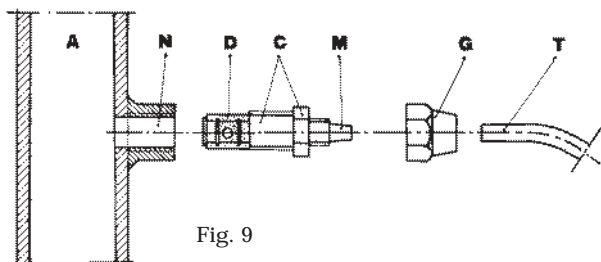

Fig. 9
- g. - Select the most appropriate injection point on a pipe of the plant to be treated and there fit a 3/8" female gas thread connector (similar to BSPm). This connector is not supplied with the pump. Screw the injection valve to the gas connector, inserting a gasket as shown in Fig. 9. Then connect the discharge hose to the conical connector on the injection valve and fix it with the supplied tube nut G. The injection valve also acts as no return valve by means of a cylinder sleeve (elastomer, standard supplied in Viton).
### 3.1 - INJECTION VALVE INSTALLATION DIAGRAM Fig. 9